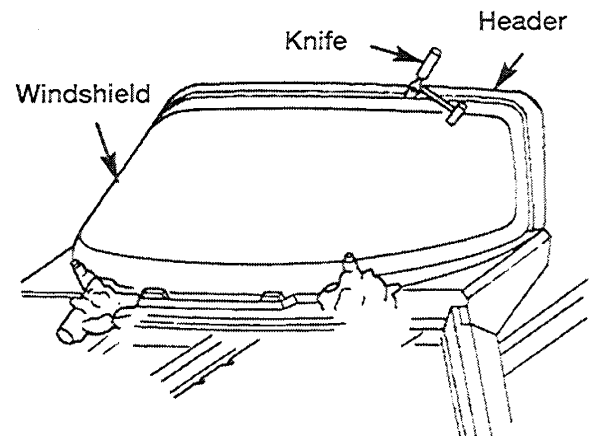

Fig. 2 Cut Urethane Around Windshield
4. Cut urethane bonding from around windshield using a suitable sharp cold knife. A pneumatic cutting device can be used if available (Fig. 2).